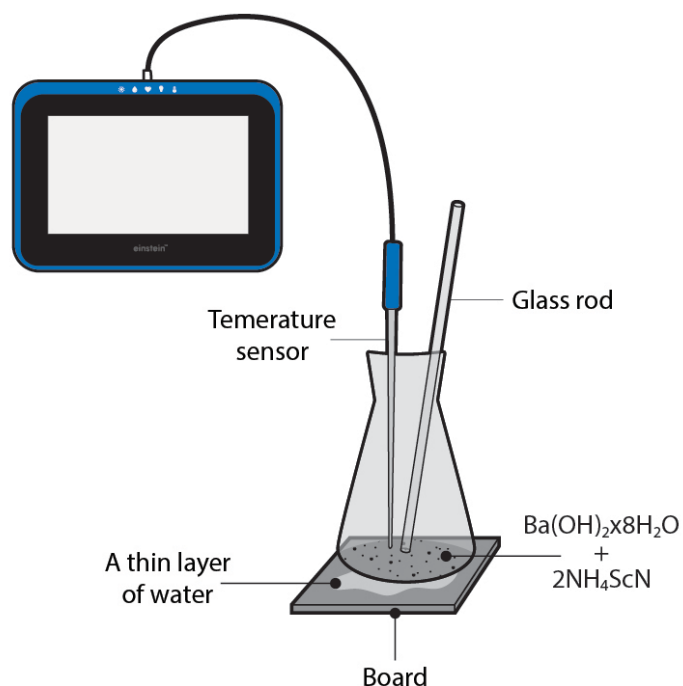

Figure 1B
8. Place the flask on the water covered board, as demonstrated in Figure 1B.